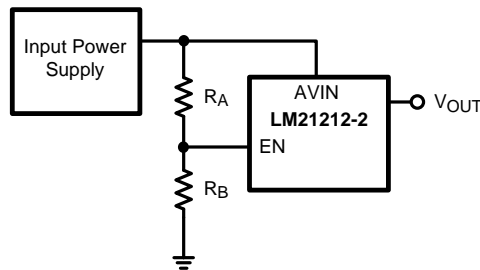

Figure 27. Enable Startup Through Vin
The LM21212-2 has a built-in under-voltage lockout protection circuit that keeps the device from switching until the input voltage reaches 2.7V (typical). The UVLO threshold has 200 mV of hysteresis that keeps the device from responding to power-on glitches during start up. If desired the turn-on point of the supply can be changed by using the precision enable pin and a resistor divider network connected to VIN as shown in Figure 27 in the design guide.
The enable (EN) pin of the LM21212-2 allows the output to be toggled on and off. This pin is a precision analog input. When the voltage exceeds 1.35V, the controller will try to regulate the output voltage as long as the input voltage has exceeded the UVLO voltage of 2.70V. There is an internal current source connected to EN so if enable is not used, the device will turn on automatically. If EN is not toggled directly the device can be preprogrammed to turn on at a certain input voltage higher than the UVLO voltage. This can be done with an external resistor divider from AVIN to EN and EN to AGND as shown below in Figure 27.